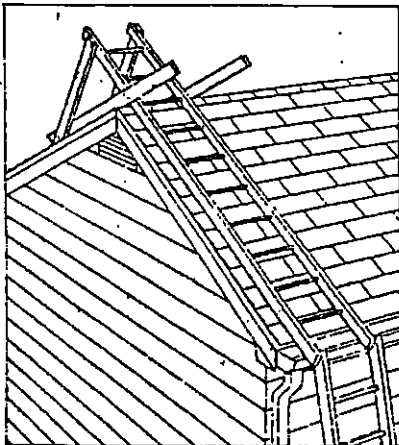

FIGURE 77
8. On a steep roof, a ladder can be anchored in place with framework as shown in Figure 77.